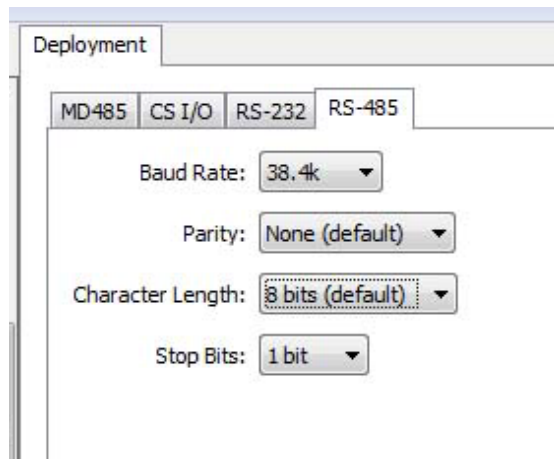

FIGURE C-3. MD485 RS-485 tab
6. Click the **RS-485** tab. Set **Baud Rate** to *38.4k*. Set **Parity** to *None*. Set **Character Length** to *8 bits*. Set **Stop Bits** to *1 bit* (FIGURE C-3).